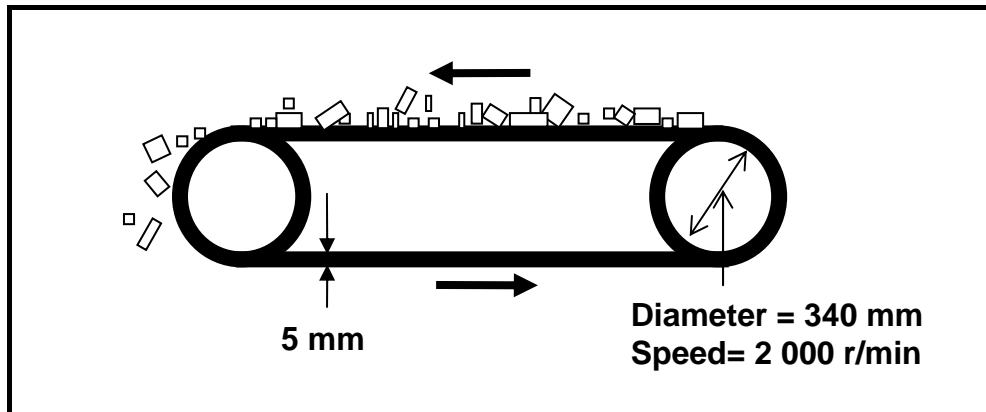

FIGURE 2.2
2.2 A mechanical engineer is requested to design a flat belt drive system to transport coal from the mine to the plant as shown in FIGURE 2.2. The specifications for the flat belt drive are as follows: